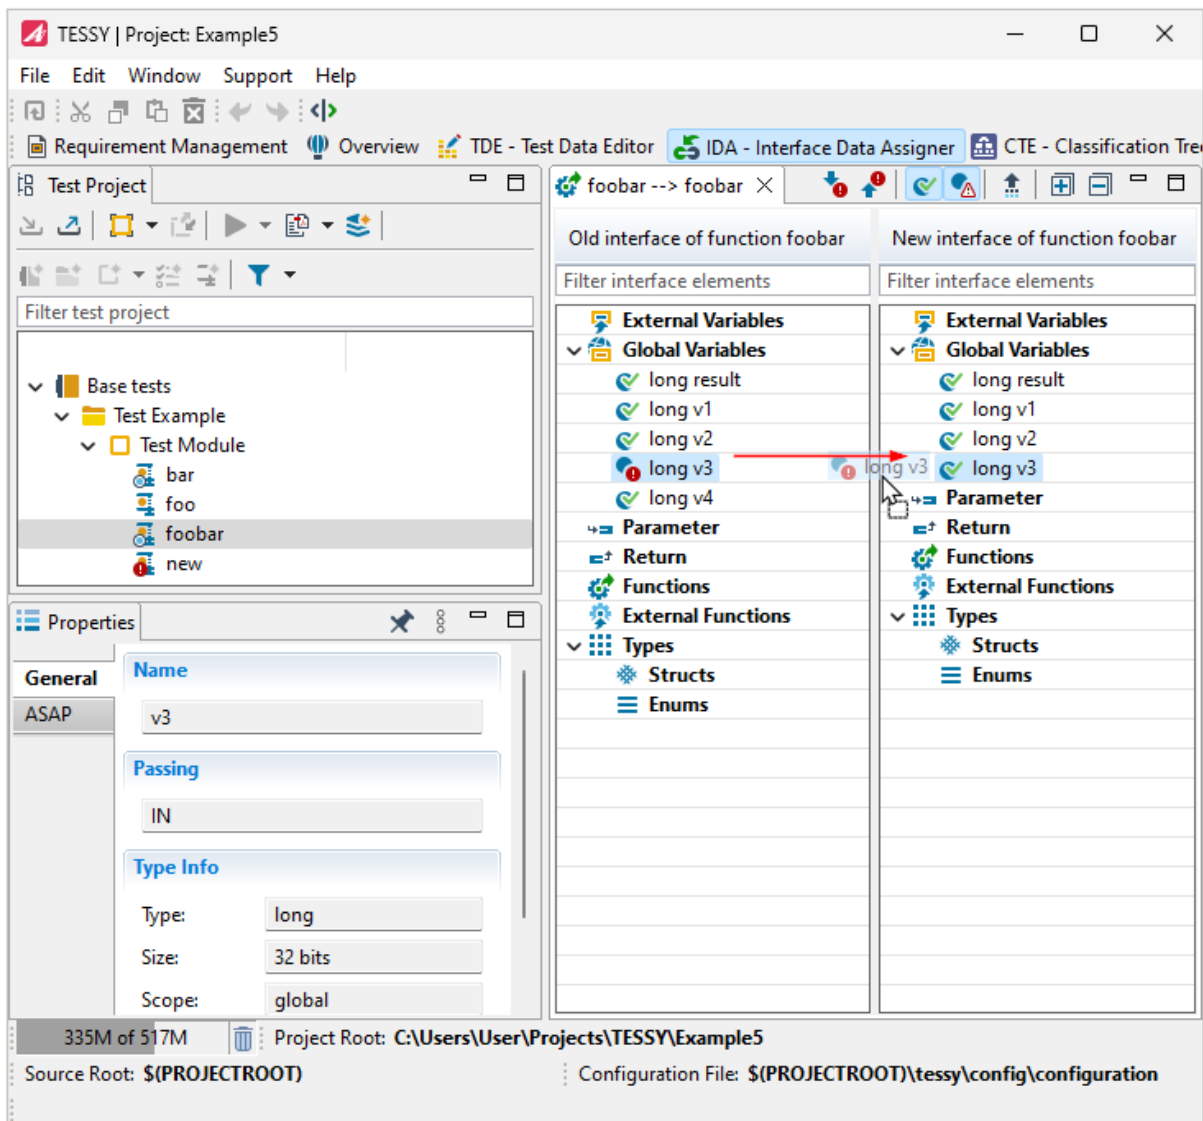

Figure 6.282: Use drag and drop in IDA
- Use the context menu or just drag and drop from the left side (see figure 6.282).